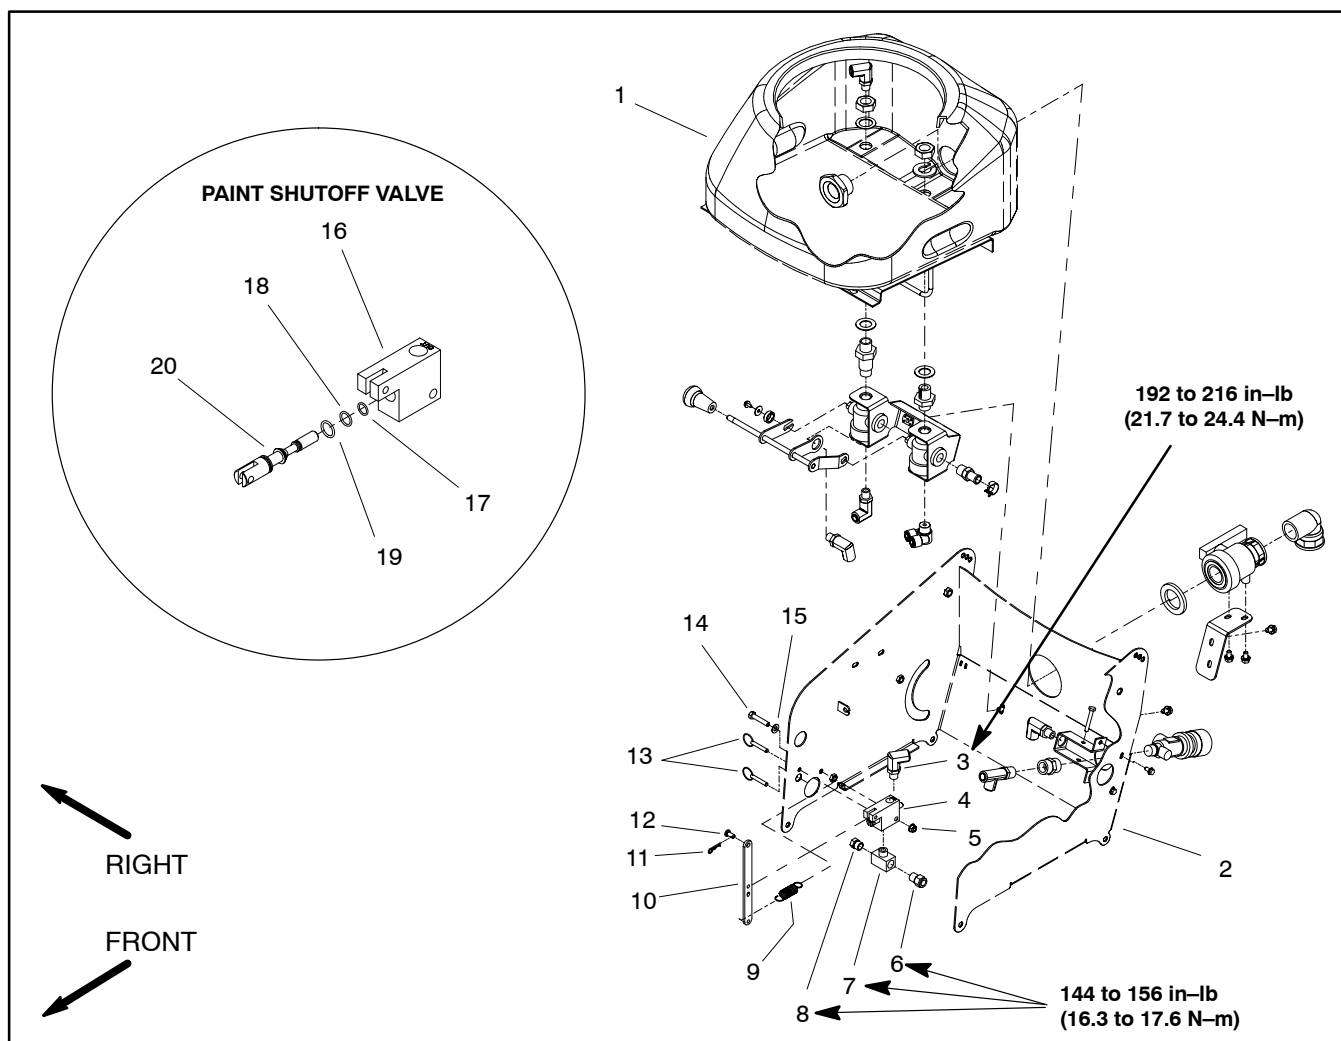
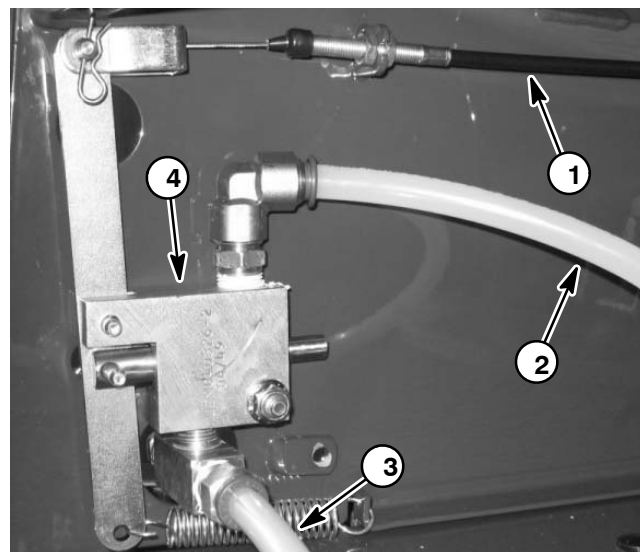
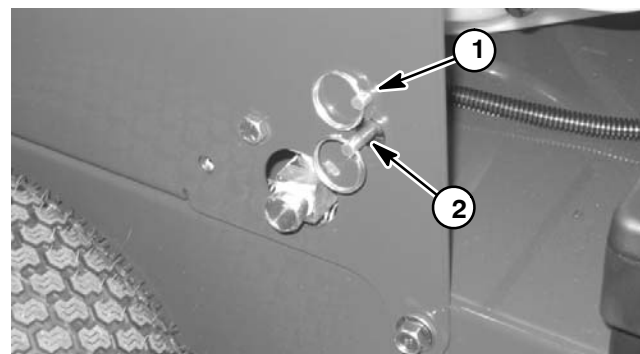

Figure 18
Figure 19
Figure 20
Paint Shutoff Valve Spool (Fig. 18)
3. Remove two (2) cotterless pins (item 13) that retain lever to shutoff valve (Fig. 20).
7. Install lever and secure with two (2) cotterless pins (item 13).
Paint Shutoff Valve Removal (Fig. 18)
4. Remove inlet and outlet hoses from paint shutoff valve (Fig. 19) (see Quick Disconnect Fitting in the General Information section).
5. Disconnect extension spring (item 9) from lever (item 10).
6. Remove hair pin (item 11) and pin (item 12) that secure cable to lever.
7. Remove two (2) cotterless pins (item 13) that retain lever to shutoff valve (Fig. 20). Remove lever from valve.
8. Remove flange nut (item 5), cap screw (item 14) and flat washer (item 15) that secure shutoff valve to tank support. Remove valve from machine.
Paint Shutoff Valve Installation (Fig. 18)
2. If fittings were removed from shutoff valve, apply Saf-T-Lok PTFE Pipe Sealant (or equivalent) to threads of fittings (see Thread Sealant for Paint System Fittings in the General Information section). Install fittings to valve. Torque fittings to values identified in Fig. 18.
3. Position valve to tank support and install cap screw (item 14), flat washer (item 15) and flange nut (item 5). Do not fully tighten nut.
4. Position lever to valve and install two (2) cotterless pins (item 13) to secure lever to shutoff valve.
5. Secure cable to lever with pin (item 12) and hair pin (item 11).
6. Tighten flange nut (item 5) to secure shutoff valve to machine.
7. Connect extension spring (item 9) to lever.
8. Connect inlet and outlet hoses to paint shutoff valve (Fig. 19) (see Quick Disconnect Fitting in the General Information section).
3. Install hoses to fittings on pressure regulator (Fig. 19) (see Quick Disconnect Fitting in the General Information section).